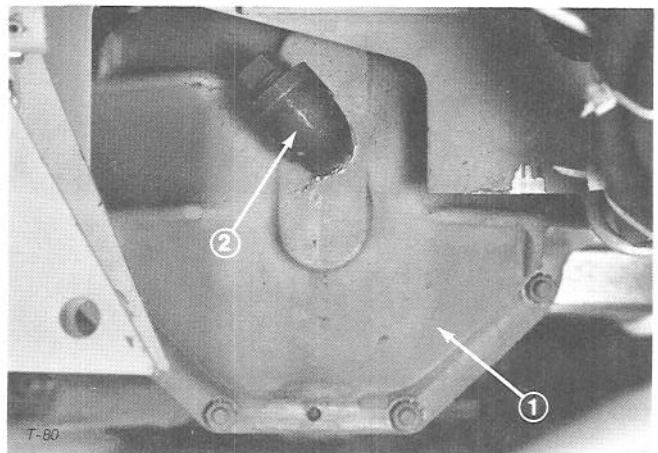

Figure 7
3. Install a pipe plug and 90 degree elbow (Fig. 7).